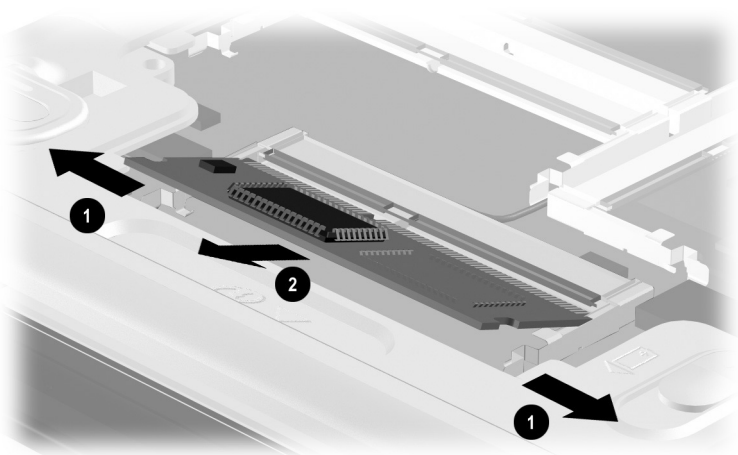

Figure 5-10. Removing the Video Memory Board
5. Spread the retaining tabs ❶ on each side of the video memory board. The board releases and rests at an angle (Figure 5-10).
6. Remove the board by pulling it away from the socket at an angle ❷.